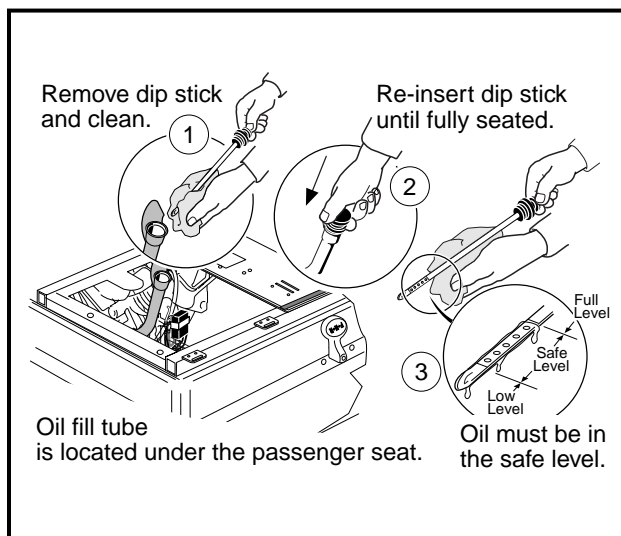

Figure 13-108 Check Engine Oil Level
15. Check engine oil level (**Figure 13-108, Page 13-49**).